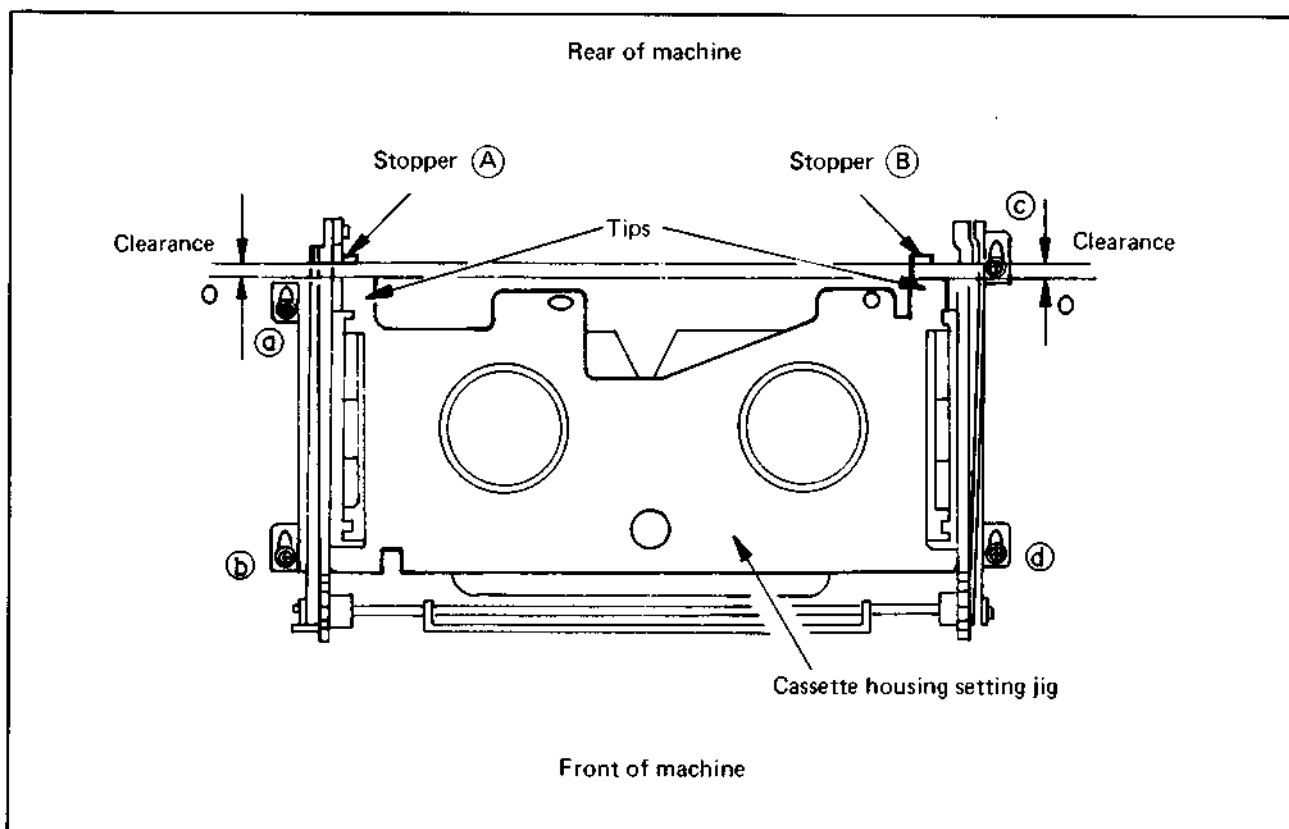

Fig. 4-7
4. Fasten the four screws a, b, c and d temporarily. Refer to Fig. 4-7.
6. Slide the cassette housing fully rearward so that stoppers become positioned as shown in Fig. 4-7 and clearance is absent between the stoppers and tips of the setting jig.